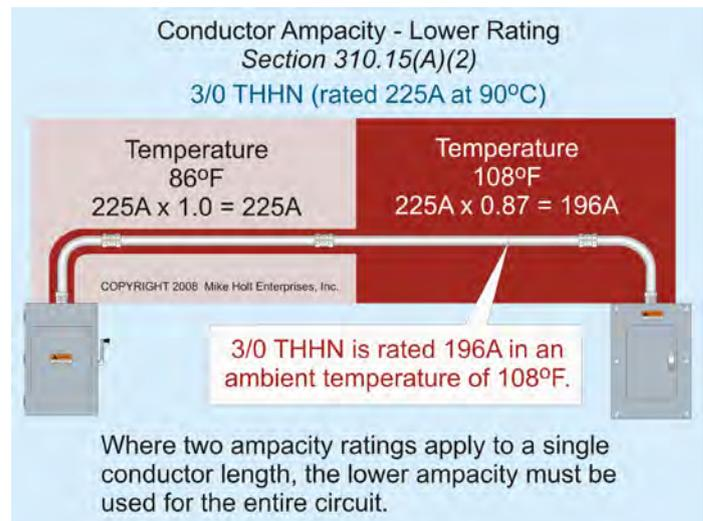

Figure 310-6
(2) Conductor Ampacity—Lower Rating. If a single length of conductor is routed in a manner that two or more ampacity ratings apply to a single conductor length, the lower ampacity must be used for the entire circuit. See 310.15(B). **Figure 310-6**